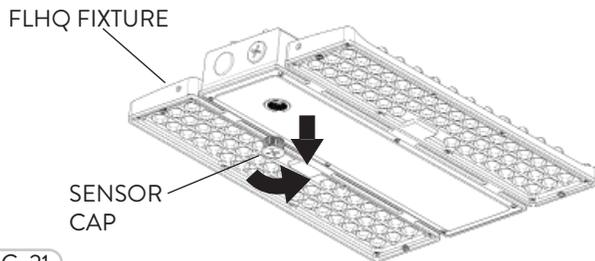

FIG. 21
- 1 The FLHQ fixtures have an Optional Lighting Control Sensor that can be added. Unscrew and remove the Sensor Cap from the bottom of the fixture (Fig. 21).